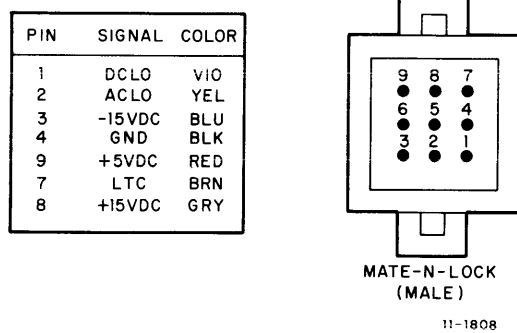

Figure 2-2 Power Harness Color Code
1. Mount logic system unit into suitable customer supplied box (either PDP-11/40, PDP-11/45, or PDP-11/35) and attach power to spade lugs located on front (Figure 2-2).